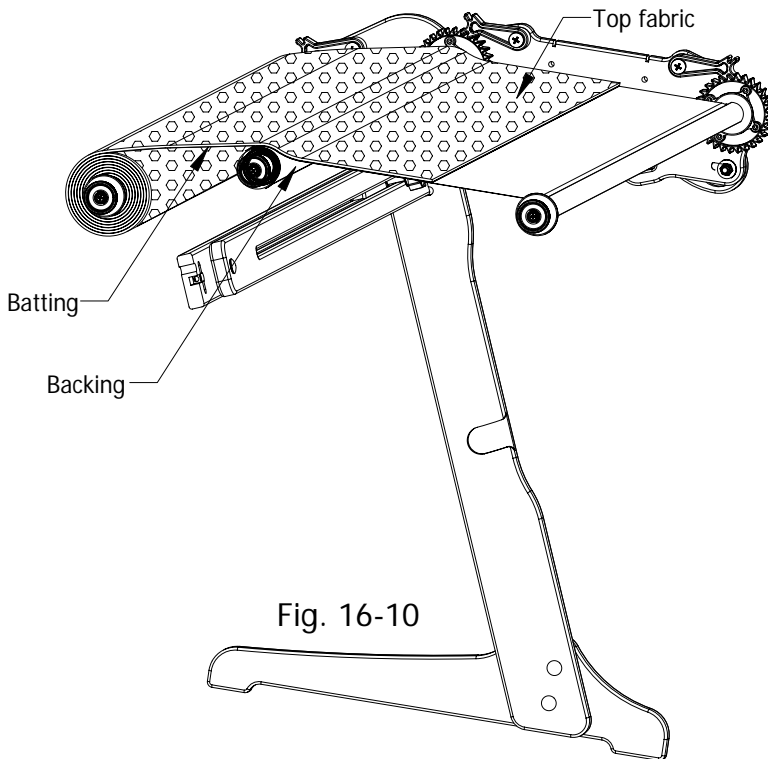

Fig. 16-10
When you reach the end of the fabric, pull the loose end of the top/batting over the backing and line it up on the front rail as shown in Fig. 16-10.
4. Top and batting to front rail (Fig. 16-10 pg. 23)